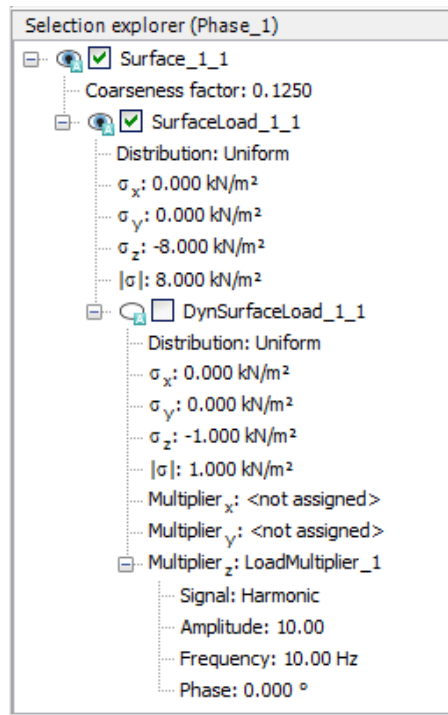

Figure 8-5: Applied load in the Phase_1
- 2 In the **Staged construction mode**, as displayed on Figure 8-5 \(p. 154\), activate the static component of the surface load. Do not activate the dynamic load.